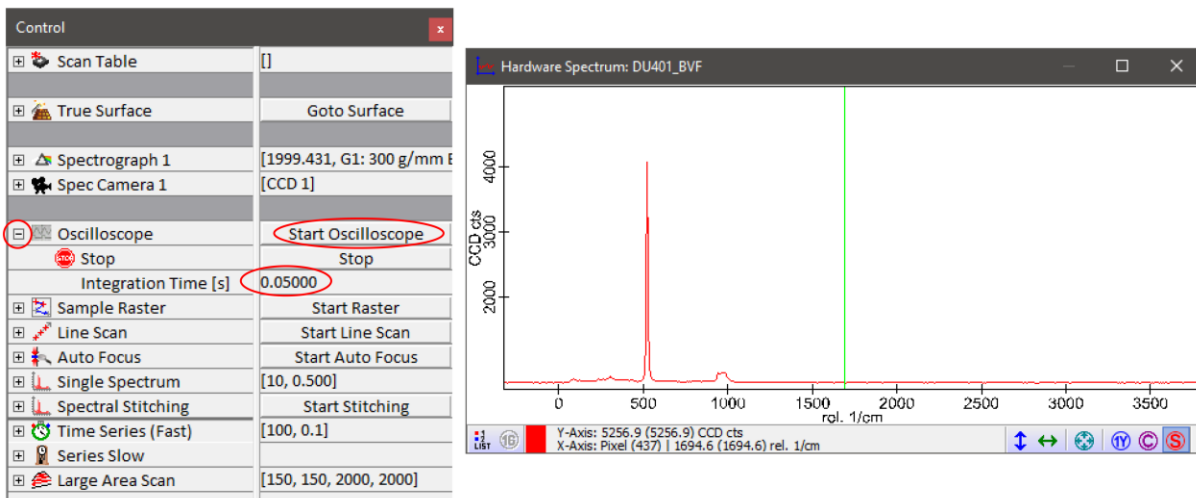

Figure 6
- 9) Expand **Oscilloscope** by clicking + (changes to -) in **Control** window (left panel in Fig 6) and input Integration time (depending on samples and laser power). If you are not sure, starting with short time (0.05s-0.2s) and low laser power (<5 mW). Fine adjust focus by Xbox controller to maximize spectral signal in live Raman spectrum (Fig 6 right panel).